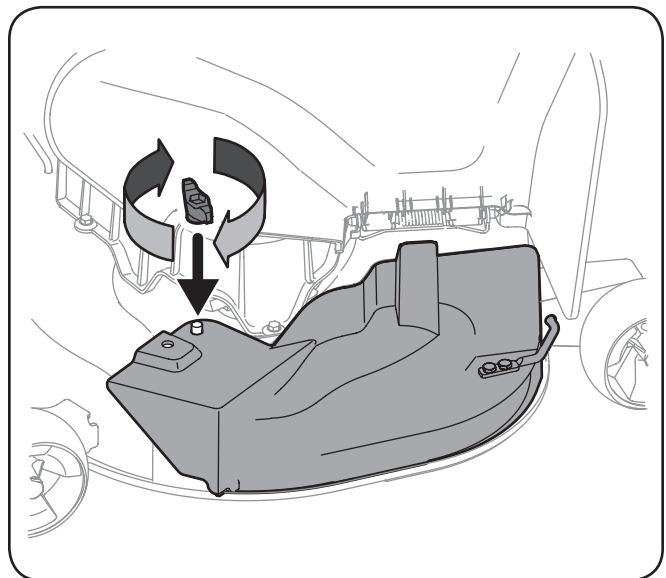

Figure 1-6
4. Secure the mulch plug in place with the wing knob. See Figure 1-6.